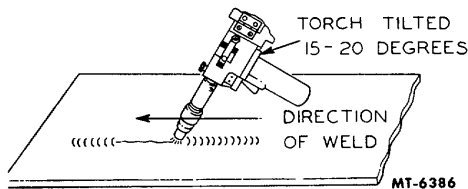

Fig. 7. Direction of weld and tilting torch.
6. Having completed the short weld, working at the opposite end of the crack start the final weld run at the drilled hole and carry this weld run up onto the short run section previously applied. Stop the final weld midway on the short run section. This procedure will prevent the leaving of a crater in the metal surface as indicated above. A crater in the skin surface could cause cracking. Tilt the torch or welding gun away from the direction of travel as shown in Fig. 7. If the crack repair is not exposed and is not to be painted, no further work is required.